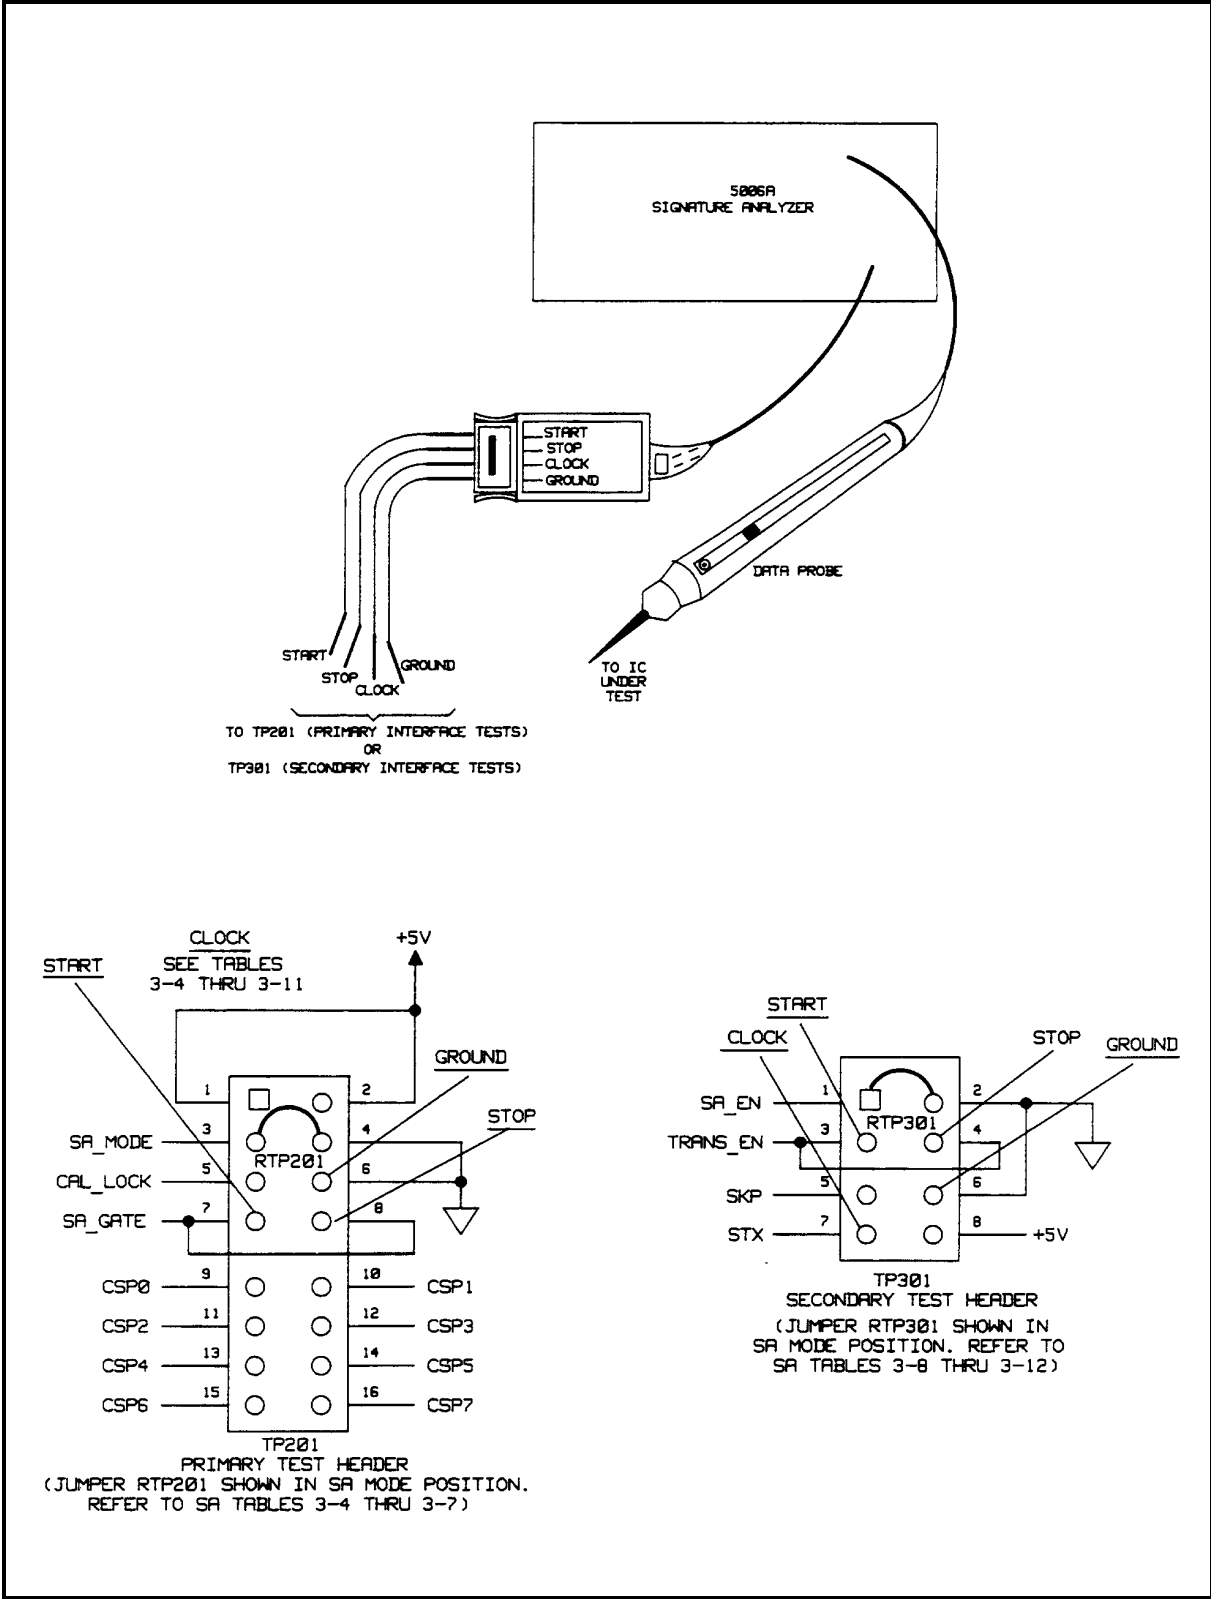

Figure 3-2. Test Headers Test Setup for Signature Analysis
Figure 3-2 illustrates the primary (TP201) and secondary (TP301) test header connections required to perform the S.A. Tests given in Tables 3-4 through 3-12. The following is a description of the test setup:
1. Connect jumper RTP201 in the S.A. position (SA\_MODE) across pins 3 and 4 of the primary test header TP201 (see Figure 3-2).
1. Connect jumper RTP301 in the S.A. position (SA\_EN) across pins 1 and 2 of the primary test header TP301 (see Figure 3-2).
- e. Upon completion of the S.A. tests, return jumpers RTP201 and/or RTP301 to their normal operating positions of TP201 and TP301 as follows (see Figure 3-2): RTP201 between TP201-7 and TP201-8; RTP301 between TP301-3 and TP301-4.